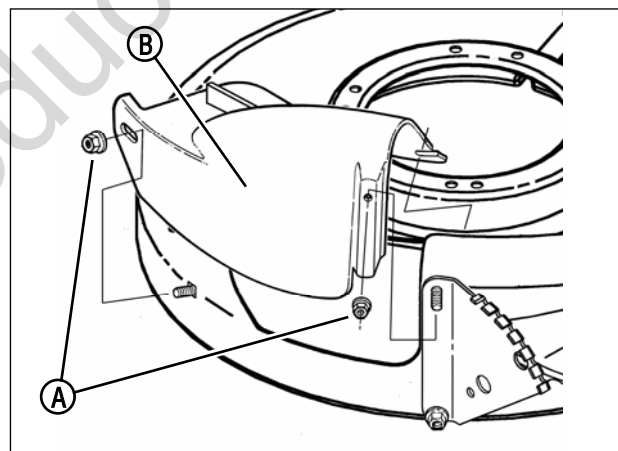

Figure 8: Removing the mulching cover
1. Remove the nuts (A, Figure 8) securing the mulching cover (B) to the mower deck.